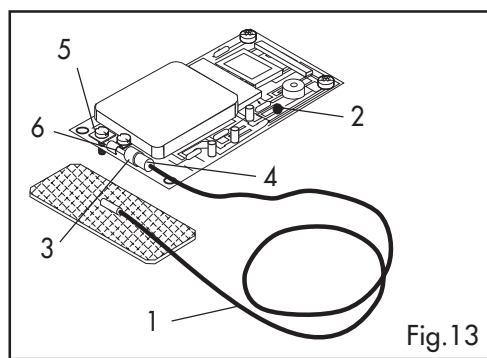

Fig.13
- Connect the antenna cable ref. 1 (Fig. 13) to the clamp on the universal module ref. 2 (Fig. 13).
NOTE: Take care when performing this procedure. Make sure that the metal chip ref. 3 (Fig. 13) is underneath the strain relief ref. 4 (Fig. 13) and that the screw head and washer ref. 5 (Fig. 13) make contact with the center conductor ref. 6 (Fig. 13).